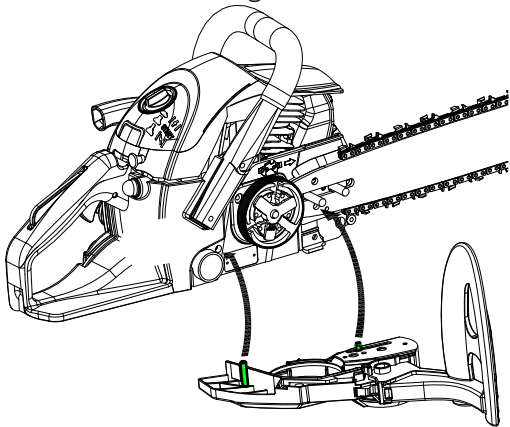

Fig. 29
4. Remove housing, review for any potential damage, clean and set aside (Fig. 29).
4. Re-install the clutch cover, loosely install two 13mm nuts and turn (clockwise). Align brake onto clutch housing and two studs making sure the studs align with mating holes on clutch cover (Fig. 29).